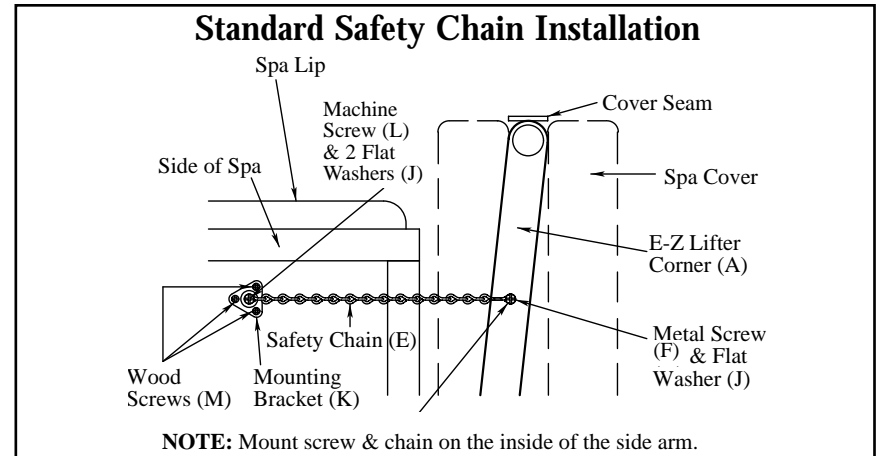

FIGURE 5
- 7) Fold the cover over the E-Z Lifter and raise it to an upright position (the cover should hang vertically). Holding the safety chain (E) level to the ground and below the spa lip, mark the position of one end of the chain on the cabinet and the other end on the respective side arm (B) on the inside (see Figure 5).
- 8) To mount the Safety Chain (E) to the cabinet, mount the Chain Mounting Bracket (K) to the spa cabinet using 3 Wood Screws (M) centered on the mark that was made on the cabinet.
Put a Flat Washer (J) onto a Machine Screw (L) followed by the Safety Chain (E) and another Flat Washer (J). Then, thread the screw into the center hole of the Chain Mounting Bracket (K) until the screw is tight. Back the screw out 1/2 turn to allow the chain to turn freely (see Figure 5). Please continue with step 9.
- 9) Now mount the Safety Chain (E) to the inside of the Side Arm (B), that was marked in Step 7. Put a Flat Washer (J) onto the Metal Screw (F), followed by the Safety Chain (E), followed by another Flat Washer (J) and carefully thread the Metal Screw (F) into the side arm until the screw is tight. Then back the screw out 1/2 turn to allow the chain to turn freely (see Figure 5).